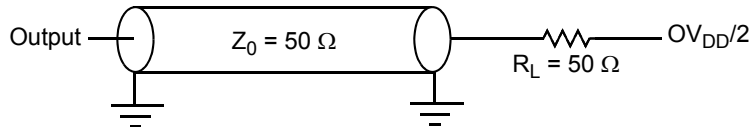

Figure 32. AC Test Load for the JTAG Interface
- All outputs are measured from the midpoint voltage of the falling/rising edge of t_{TCLK} to the midpoint of the signal in question. The output timings are measured at the pins. All output timings assume a purely resistive 50-Ω load (see Figure 32). Time-of-flight delays must be added for trace lengths, vias, and connectors in the system.
- The symbols used for timing specifications follow the pattern of $t_{\text{(first two letters of functional block)(signal)(state)(reference)(state)}}$ for inputs and $t_{\text{(first two letters of functional block)(reference)(state)(signal)(state)}}$ for outputs. For example, $t_{\text{JTDV KH}}$ symbolizes JTAG device timing (JT) with respect to the time data input signals (D) reaching the valid state (V) relative to the t_{JTG} clock reference (K) going to the high (H) state or setup time. Also, $t_{\text{JTDX KH}}$ symbolizes JTAG timing (JT) with respect to the time data input signals (D) went invalid (X) relative to the t_{JTG} clock reference (K) going to the high (H) state. Note that, in general, the clock reference symbol representation is based on three letters representing the clock of a particular functional. For rise and fall times, the latter convention is used with the appropriate letter: R (rise) or F (fall).